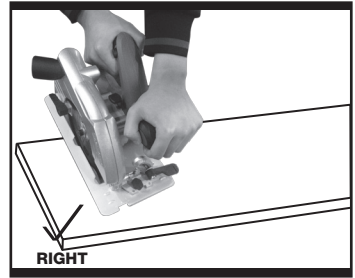
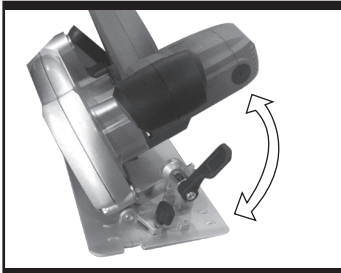

Fig. 1-1
Fig. 4
Always hold your saw firmly with both hands when operating. The right and wrong ways to hold the machine are shown in Fig. 1-1 and Fig. 1-2.
Adjusting the angle of the base plate (3) enables bevel cutting (See Fig. 4). The base plate (3) must always be held firmly against the material being cut to reduce saw vibration, blade jumping or blade breakage (See Fig. 1-1)